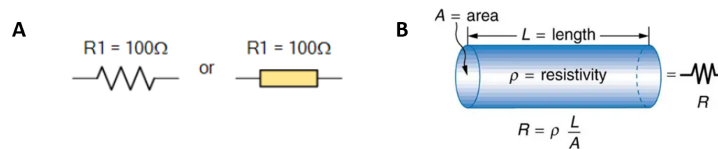

Figure 4: Resistor electric symbols. Adapted from https://www.electronicstutorials.ws/resistor/res_1.html
Resistors are represented in electrical circuits as shown in figure 4. A and resistance is measured in *Ohms* (Ω). They are called “Passive Devices”, because they contain no source of power or amplification but only attenuate or reduce the voltage or current signal passing through them. This attenuation results in electrical energy being lost in the form of heat as the resistor resists the flow of electrons through it.
The resistance of any substance depends on the following factors: 1) the length of the device (L), 2) the cross sectional area of the device (A), 3) the nature of material of the device, which has an inherent *resistivity* (ρ , measured in $\Omega.m$), 4) the temperature of the device (T) (see Figure 4.B). All these variables also apply to evaluate pipes resistance in the water analogy!